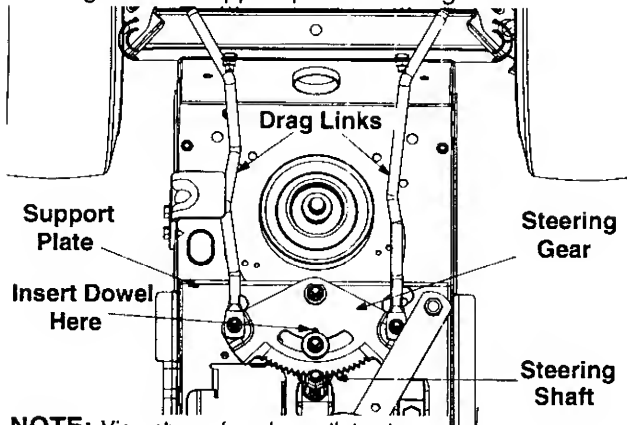

Figure 12
- Place the steering wheel in position for straight ahead travel. Insert a 1/4" dowel up through aligning holes in both the steering gear and support plate. See Figure 12.